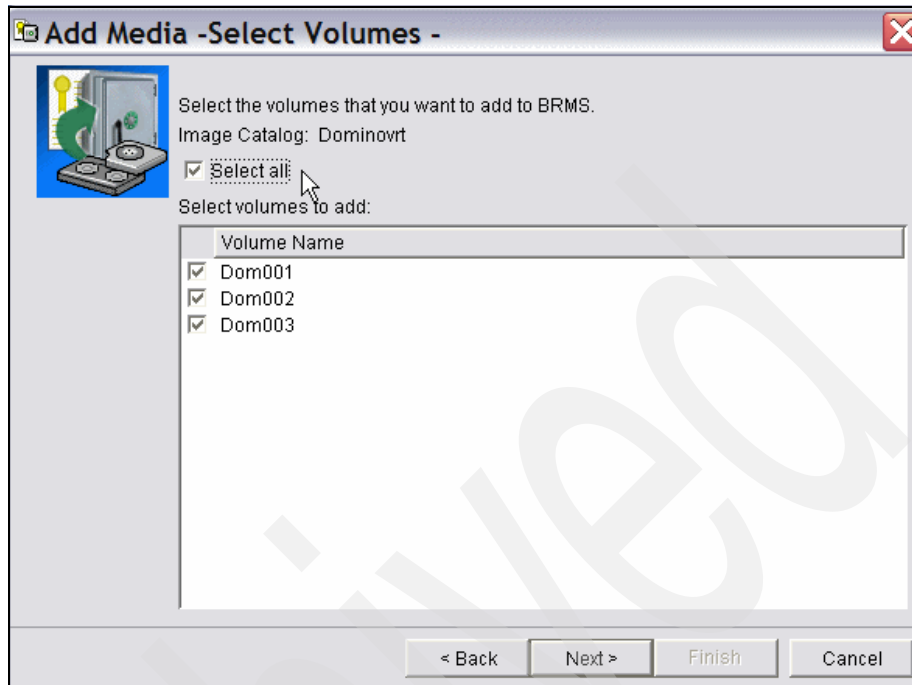

Figure 5-32 BRMS backup policy, select volumes
19. In this scenario, only three volumes are added. To use all of them, select them one after the other or check **Select all**, and click **Next**, as shown in Figure 5-32 on page 220.